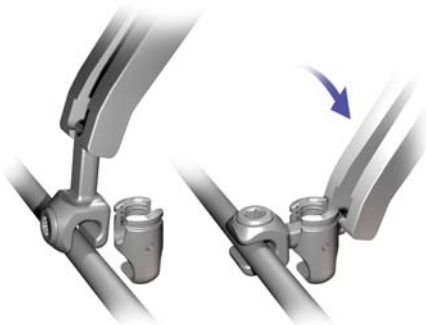

Figure 2b
- Medial/Lateral Hooks can be used in conjunction with a Lateral Offset Connector (Figure 2b).